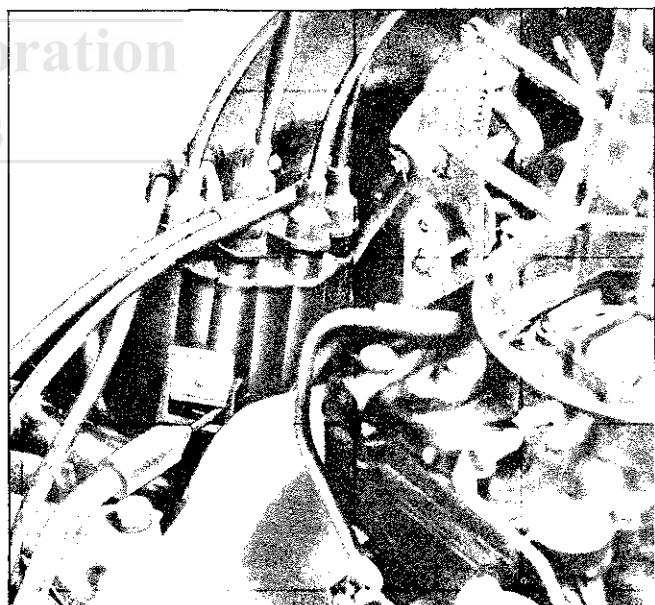

Fig. 6E-24 Adjusting Dwell Angle
2. Insert Hex type wrench into head of adjusting screw as shown in Fig. 6E-24.